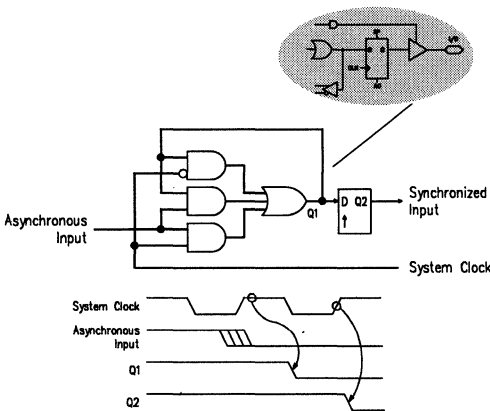

Figure 6. Input synchronization using a PEEL18CV8
The equations for this circuit are shown below. Although using the clock signal in the equations may look like a possible race condition, this is not the case because of the zero hold time allowed for PEEL device registers. A possible logic hazard is removed (a high-low-high glitch) by ANDing the input (IN) and the internal feedback signal (Q2). Note, the Q2 signal used on the right side of the equation actually represents the internal combinatorial feedback labeled as Q1 in figure 6.